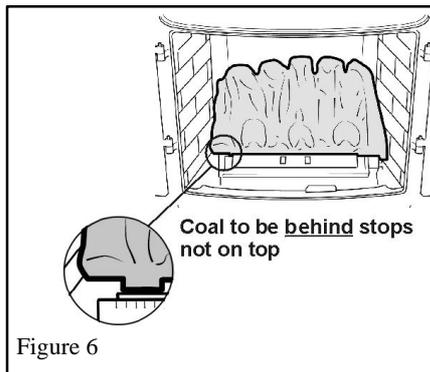

Figure 6
2. Place the ceramic rear base coal in position. The front of the coal must rest behind the two stops at the rear of the burner and not rest on top of them. See figure 6.